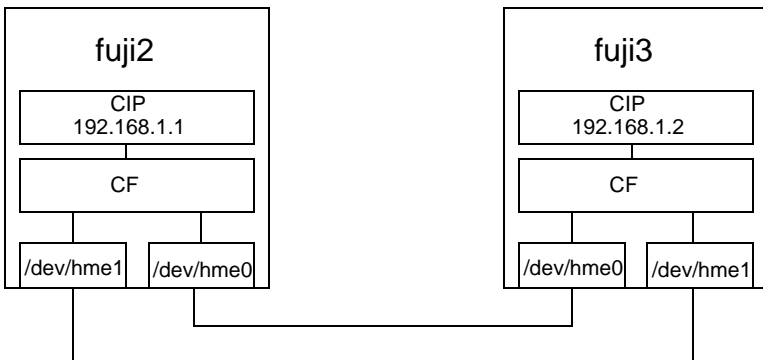

Figure 1: CIP diagram
CIP defines a reliable IP interface for applications on top of the cluster foundation (CF). CIP itself distributes the traffic generated by the application over the configured cluster interconnects (see Figure 1).